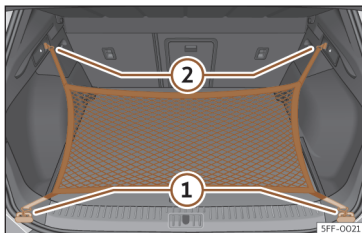

Fig. 119 In the luggage compartment: rings ① and hooks ② for attaching the net bag.
- Secure the short net hooks to the fastening rings»» Fig. 119 ① »» ⚠. The bag zip should be facing upwards.
- Secure the straps in the bag hooks ②.